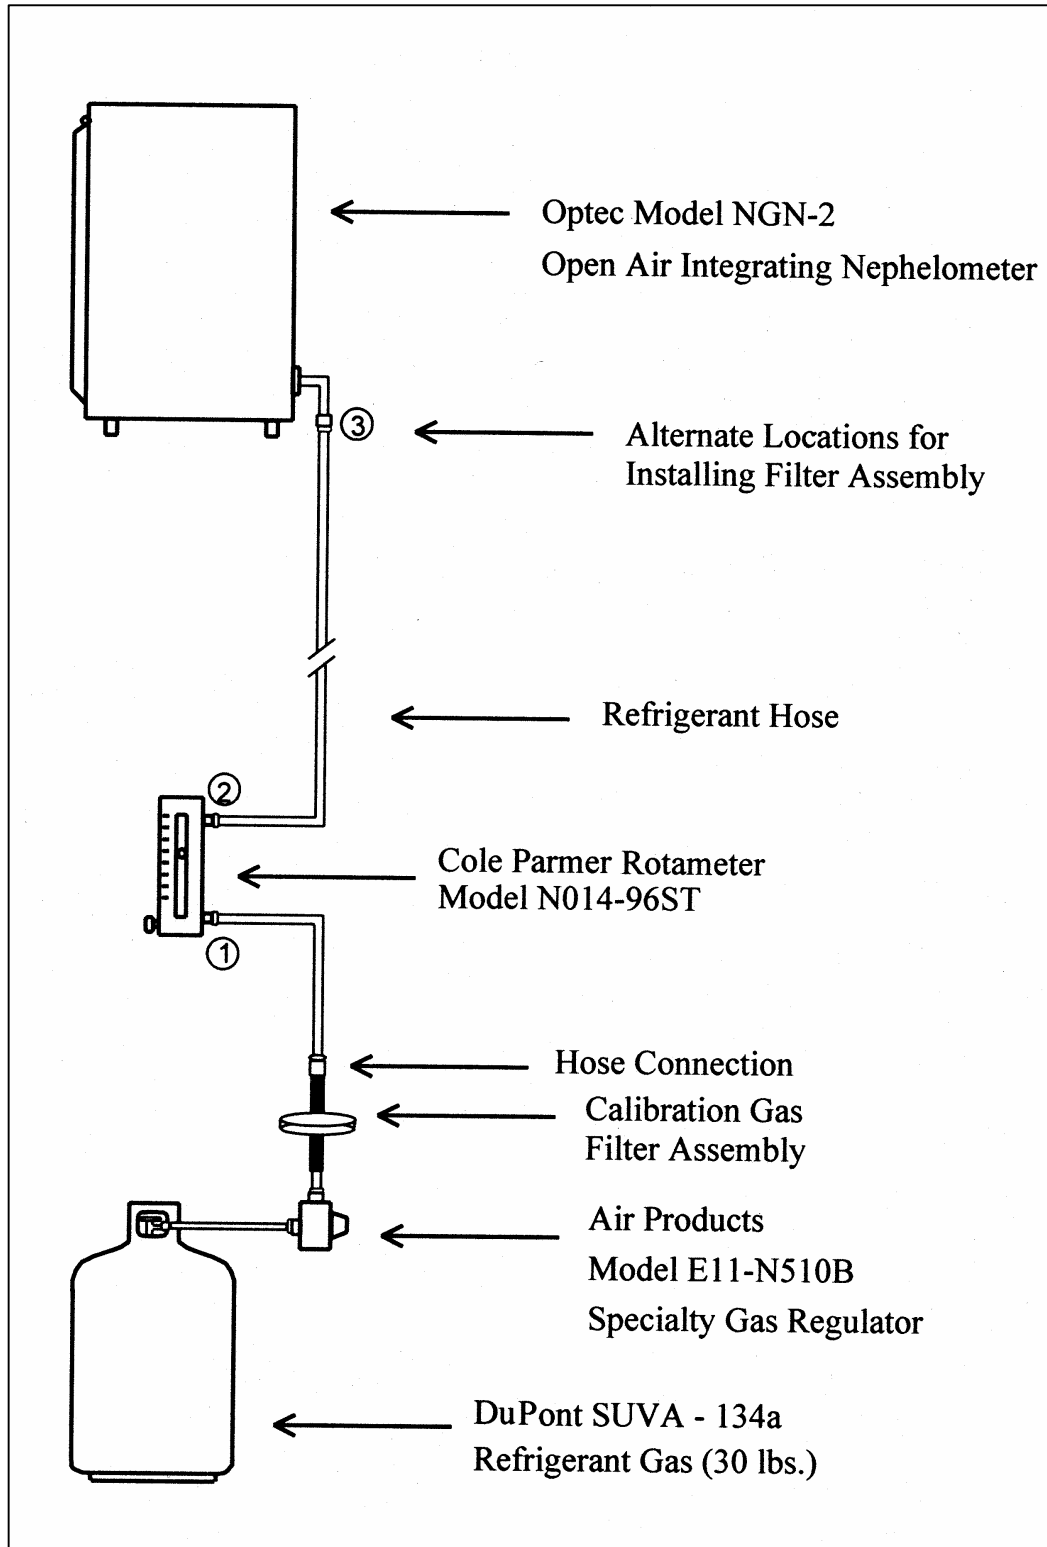
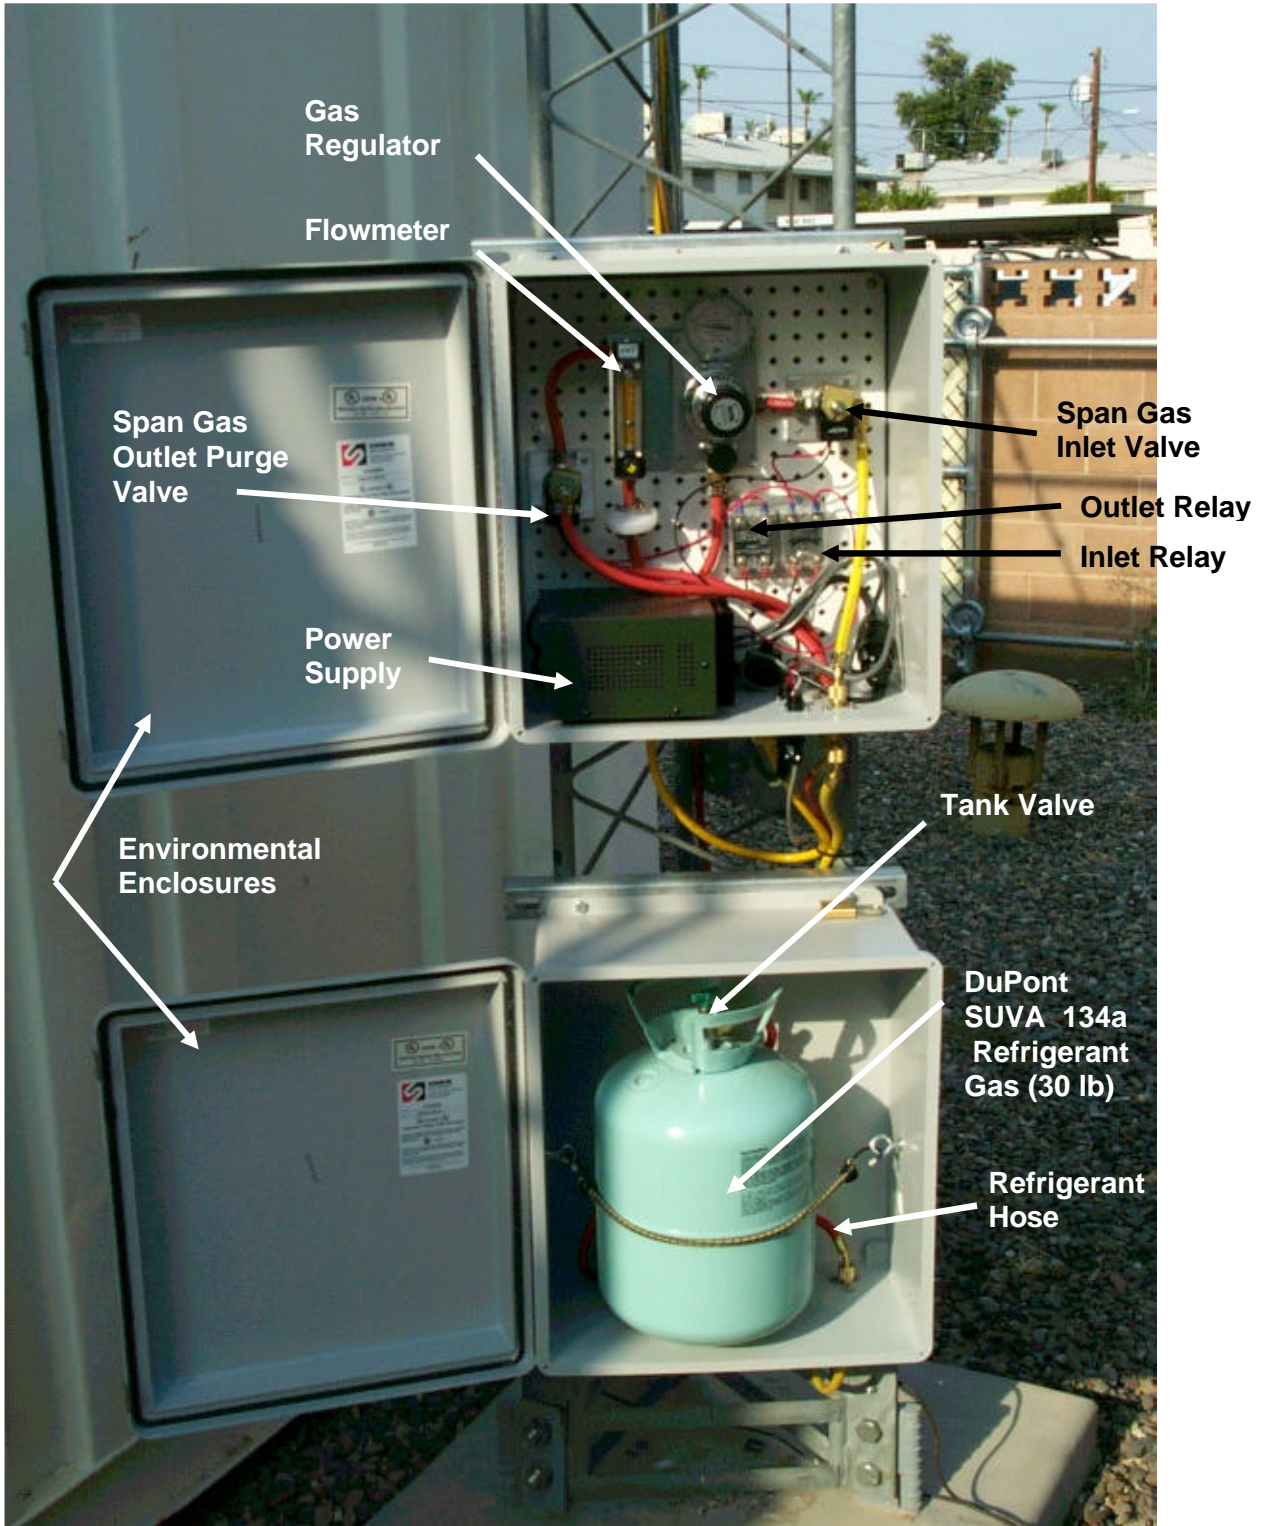

Figure 3-1. Manual Span Gas Calibration/Audit Configuration for the Optec NGN-2 Nephelometer – Type 1.
Figure 3-2. Automatic Span Gas Calibration System for the Optec NGN-2 Nephelometer – Type 2.
- Calibration gas hoses and fittings to connect the tank, regulator, flowmeter, and nephelometer (Refer to Figure 3-1 for Type 1 systems and Figure 3-2 for Type 2 systems).